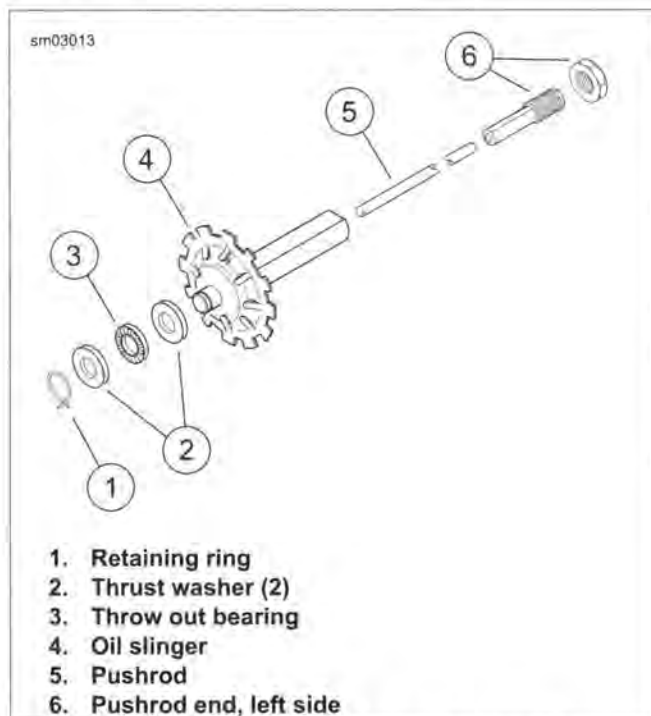

Figure 6-8. Pushrod Assembly: Cable Clutch
7. See Figure 6-8. Remove oil slinger assembly from mainshaft. Remove pushrod.